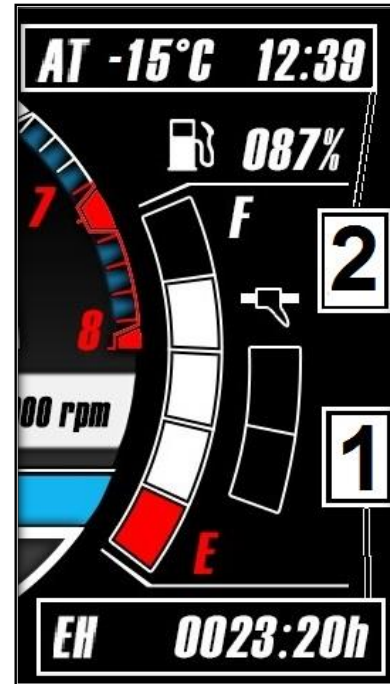

Fig. 21
<p>clocks and watches The clock is located in the auxiliary output string at the top right of the dashboard display (pos.2, Figure 21). This message can be alternated with the incoming number.</p>
<p>ambient temperature “Ambient Temperature” - (AT). The upper right corner of the instrument panel display (POS.2, Figure 21) displays the ambient temperature (OS) according to the signal from the front bumper temperature sensor of the snowmobile. This message can be alternated with the incoming number.</p>